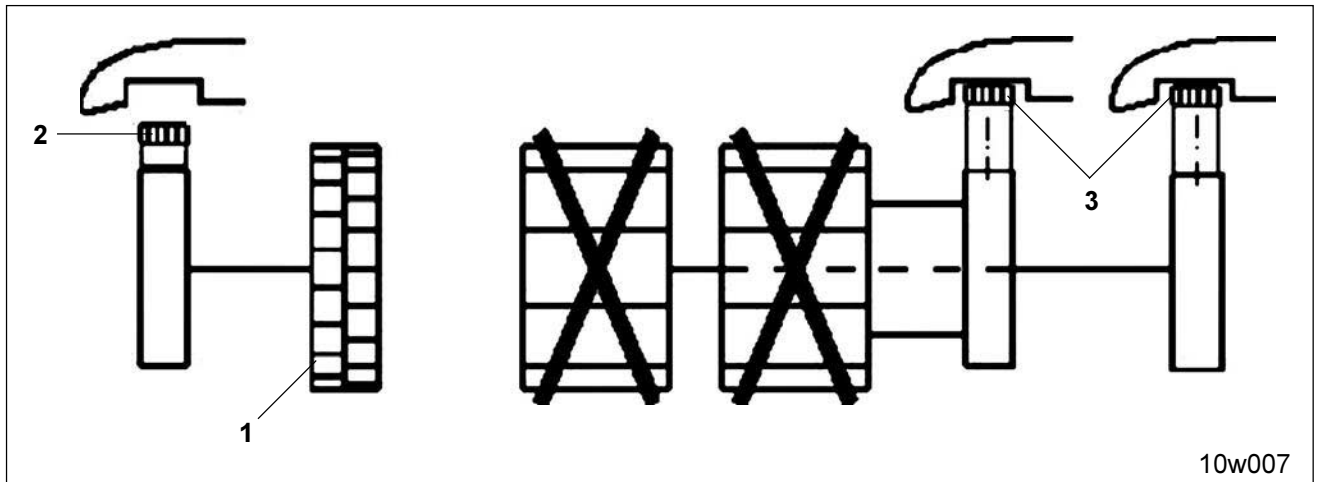

Fig. 10.6
When sowing with the fine seed metering wheel (Fig. 10.6/1)
- drive in knurled bolt (Fig. 10.6/2) of the fine seed metering wheel
- drive out knurled bolts (Fig. 10.6/3) of both main seed metering wheels.